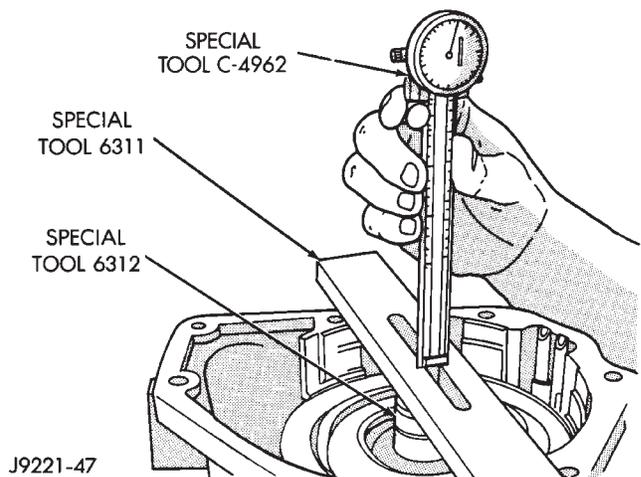

Fig. 262 Shaft End Play Measurement
- (2) Determine correct thickness intermediate shaft spacer as follows:
- (b) Position Gauge Tool 6311 across face of overdrive case (Fig. 262). Then position Dial Caliper C-4962 over gauge tool.
- (c) Extend sliding scale of dial caliper downward through gauge tool slot until scale contacts end of Gauge Alignment Tool 6312. Lock scale in place. Remove dial caliper tool and note distance measured (Fig. 262).